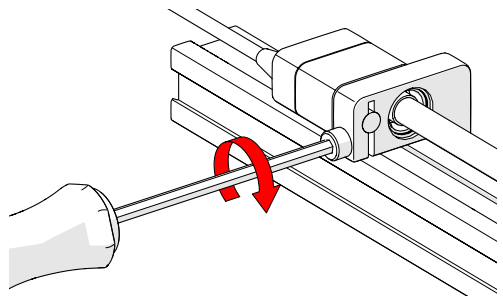

Fig. 73 - Tighten clamp screw
3. Lock the encoder in place by tightening the 3 mm clamp screw on the index encoder support bracket (Fig. 73).